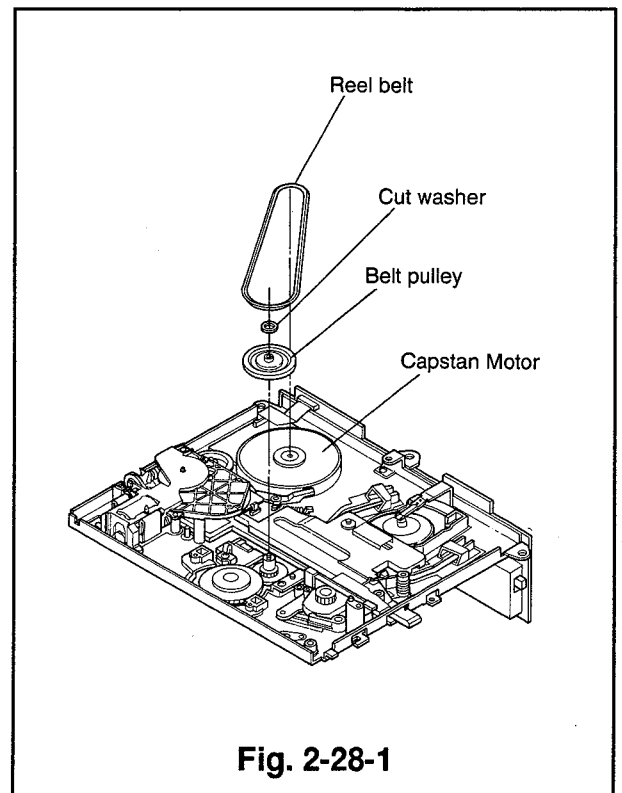

Fig. 2-28-1
- ① Unfasten the reel belt from the capstan motor and the belt pulley.
- ② Release the belt pulley as shown in Fig. 2-28-1 and raise the belt pulley upward to remove it.